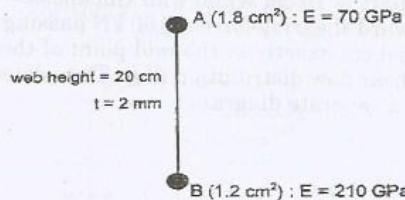

Figure 7
16. a) i) State the assumptions of the generalized theory of pure bending and derive an expression for the bending stress distribution when a uniform beam undergoes unsymmetrical bending. Show that the neutral axis passes through the centroid. (9)
ii) The connecting web in cross-section of Figure 7 is ineffective in bending. Find the bending stresses in the stringers if the given section is subject to a bending moment of 3500 Nm in the vertical plane. (6)